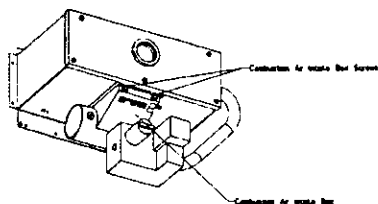

Fig. 19 – Removing Combustion Air Intake Box
- a. Remove front 2 screws on combustion air intake box. (See Fig. 19)
- b. Remove combustion air intake box and set aside. (See Fig. 19)
- h. Reinstall combustion air intake box and replace 2 screws to ensure diverter plate is properly installed. (See Fig. 19)